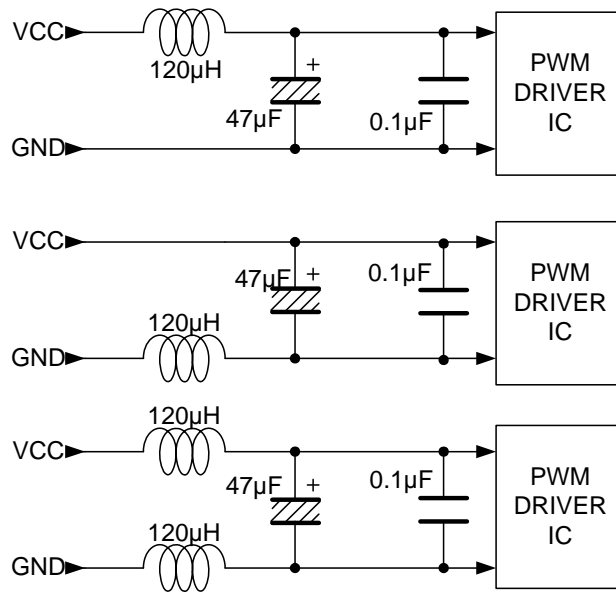

Figure 8. Example of LC filter
(3) If there's no improvement with the condition (1) and (2), there are two improvement way. The first way is to insert an LC filter in the power line or in the ground line. (Figure 8.)